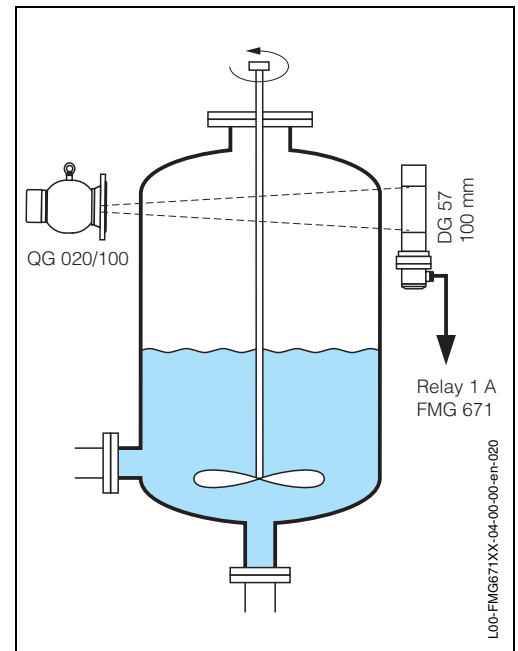

Fig. 6.3 Measurement system of level limit detection with gammagraphy (maximum)
- The measuring arrangement corresponds to that shown in Fig. 6.3. A 100 mm long scintillation detector is mounted vertically along the vessel wall.